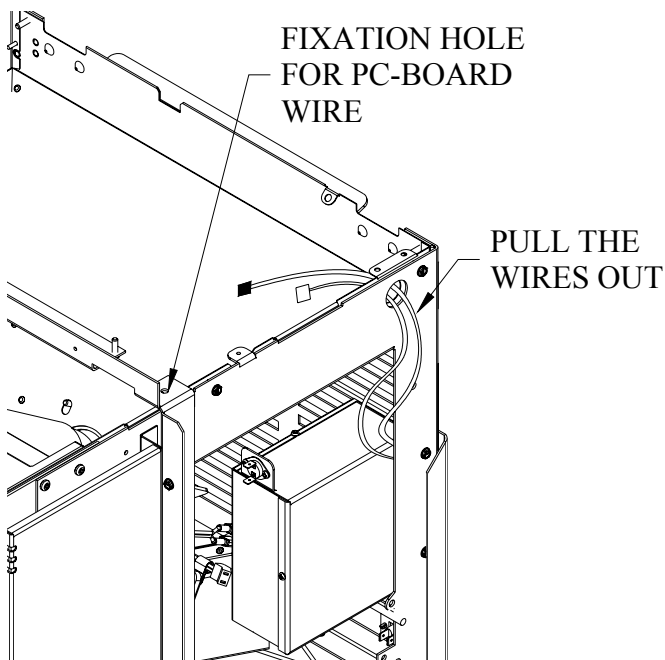
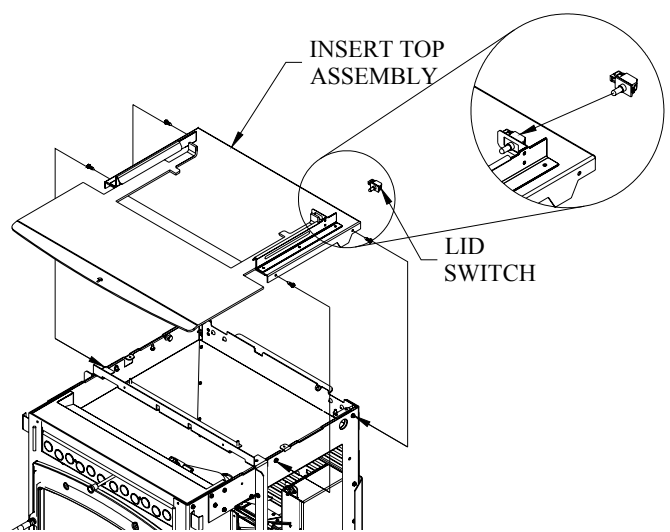

Figure 26
Figure 27
- 2- Pull out the lead wires(Figure 26).Secure the top assembly with the 4 screws and insert the lid switch in the bracket at the rear of the right slide(Figure 27). Plug the white connector to the lid switch.
- 3- Run the wire with the black connector towards the front and secure it using the wire straps and fixation hole(Figure 26)